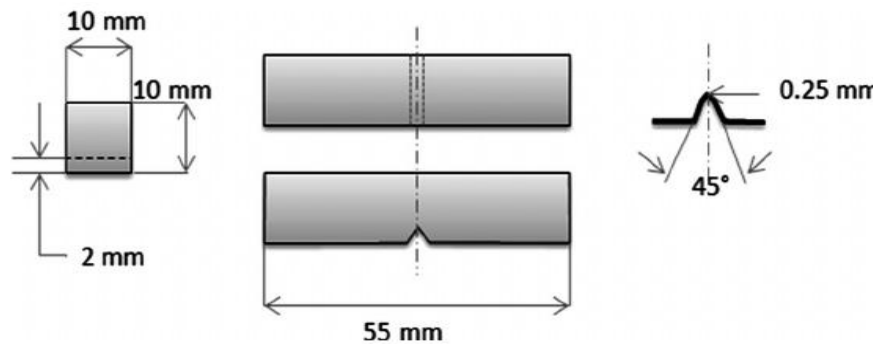

Fig.5. Charpy impact test specimen dimensions
3. Bring indicator of the machine to zero, or follow the instructions of the operating manual supplied with the machine as shown in figure.5 below.